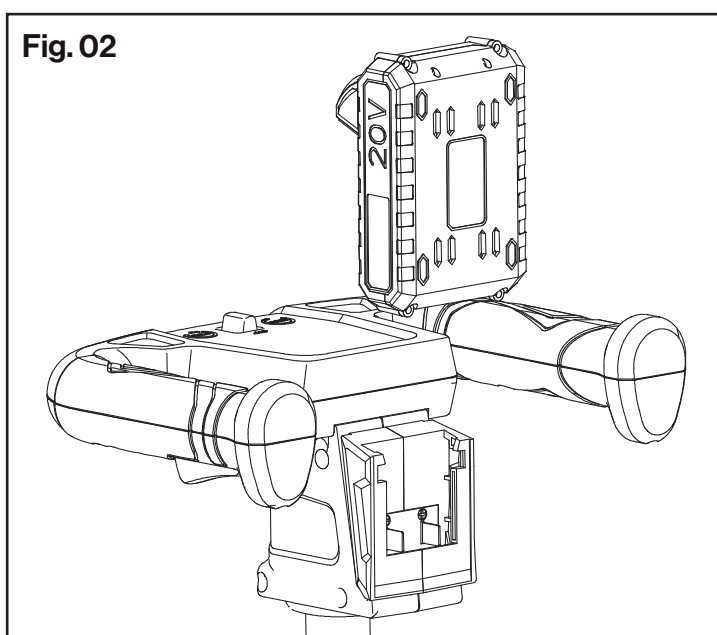

Fig. 02
3. Insert the battery for standby. **(Fig.02)**